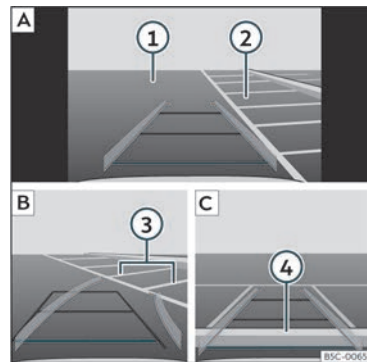

Fig. 196 Display on the Infotainment system screen.: parking with reverse assist.
Key to the **Fig. 196**:
• Place the vehicle in front of the parking space >>> **Fig. 196** ② **A**.
• Reverse while turning the steering wheel so that the yellow lines enter the parking space. The green and yellow lines must match the side boundary lines ③ **B**.
• Stop the vehicle when the red line has reached the rear boundary ④ **C**.